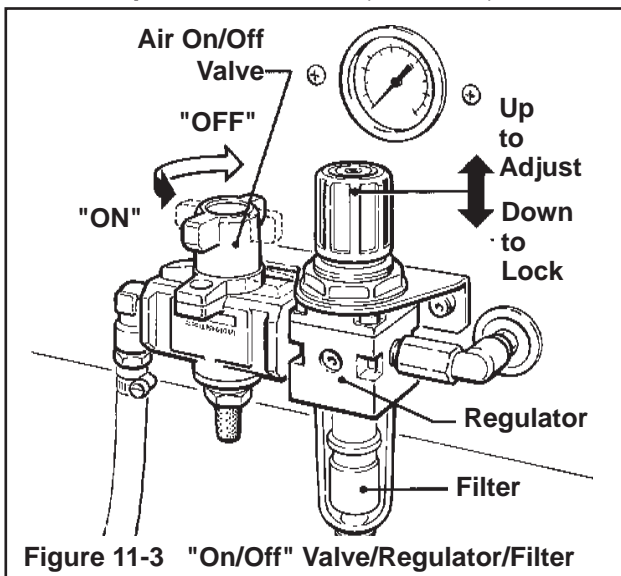

Figure 11-3 "On/Off" Valve/Regulator/Filter
- ② **Main Air "On/Off" Valve/Pressure Regulator/Filter – Figure 11-3.** This set of pneumatic components controls, regulates and filters plant air supply to the two separate control circuits of the case sealer.